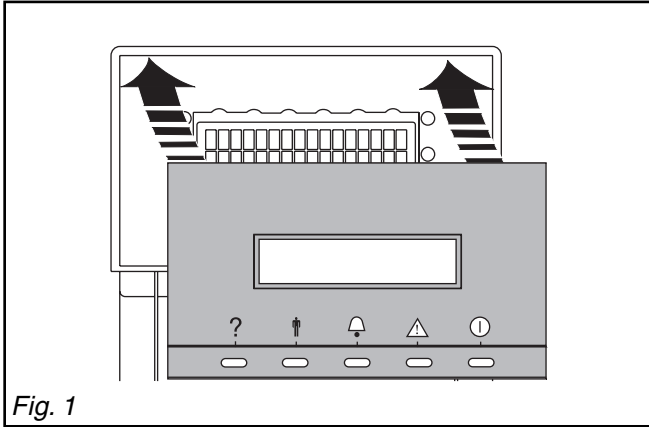

Fig. 1
3.1 Secure plastic front (Fig. 1)